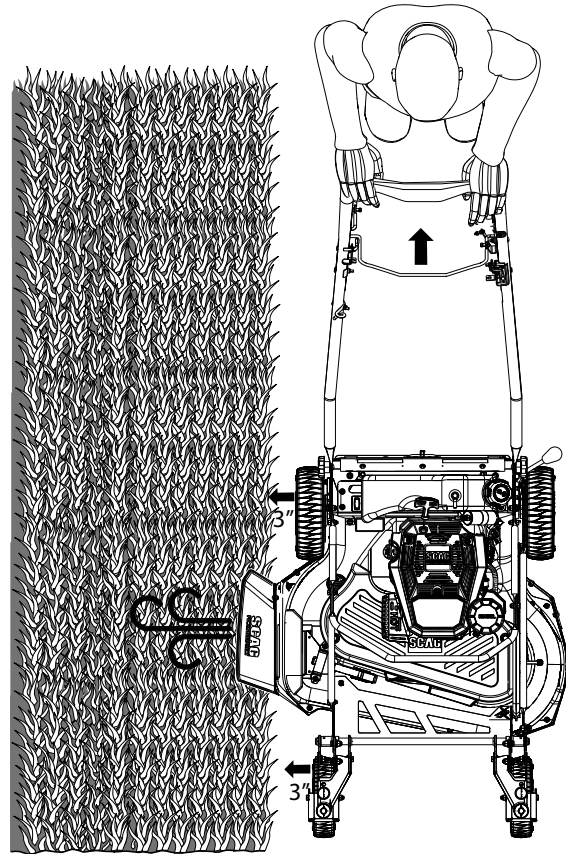

Figure 4-2. Blade Stop Test
5. Position the machine so the discharge chute is pointing towards the patch of grass and approximately 3" away. See Figure 4-2.